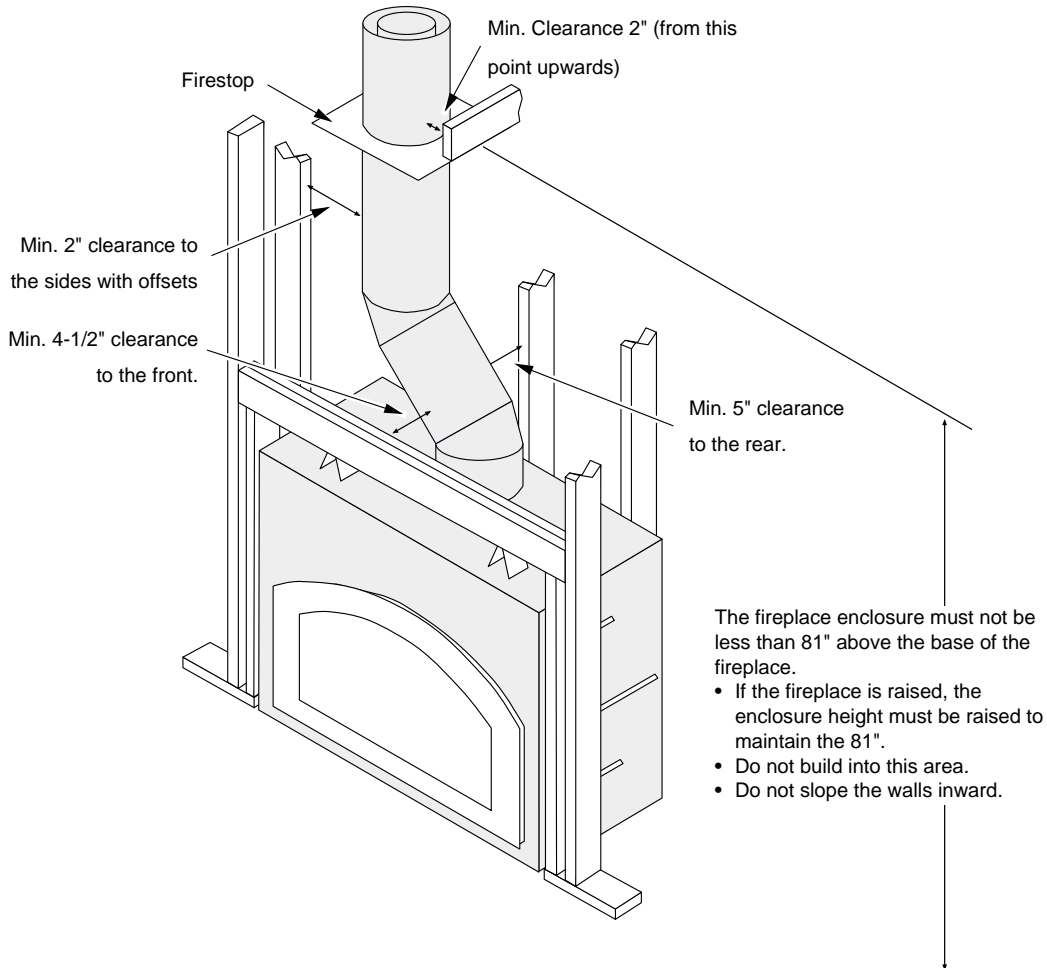

Figure 22
- Maintain a 2" clearance from the chimney to combustibles (measured horizontally). See Figure 22.